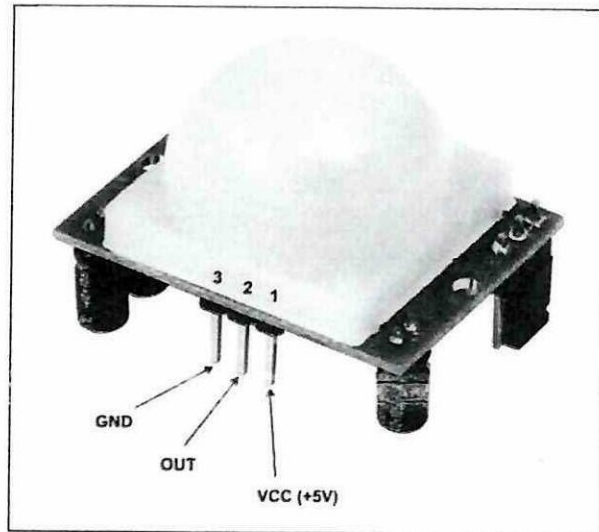

Figure Q1
- Q1** A passive infrared (PIR) sensor as in **Figure Q1** is an electronic sensor that measures infrared (IR) light radiating from objects in its field of view. They're most frequently utilized in PIR-based motion detectors. As a student who has studied the subject of Microcontroller, you are required to develop a system that can detect human presence in an area using PIC18F4550 as the system controller with some other electronic equipment such as a LED and an electronic buzzer. Using your creativity, answer the following questions:
- (a) Explain how the project works and give **TWO (2)** examples of other applications on the market that use the same system. (5 marks)